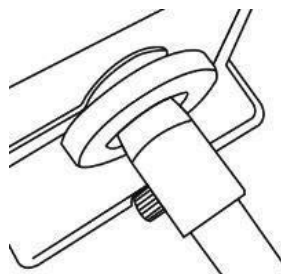

Fig. 13
2. Loosen the nut (#8) (Fig. 13).